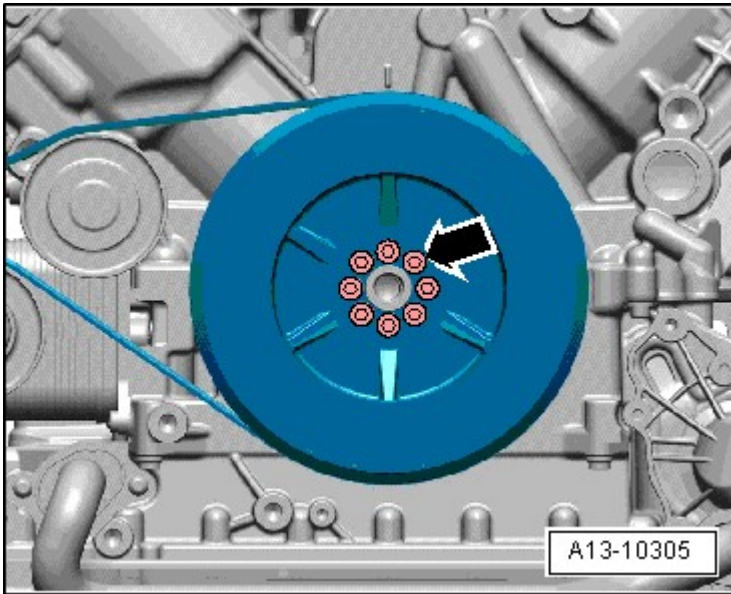

Fig. 17: Identifying Mounting Bolts On Vibration Damper
- Tightening specification and sequence, refer to **Fig. 17**